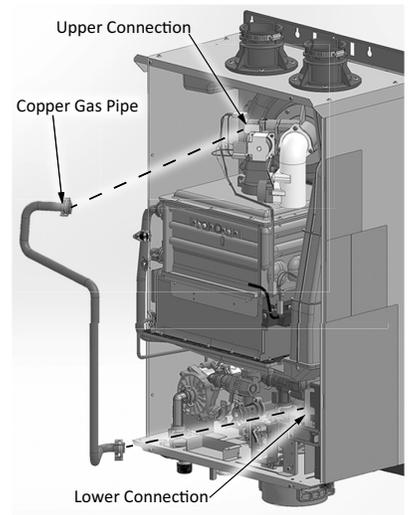

Figure 30: Copper gas pipe removal
- 6 Carefully remove the old copper gas pipe from the water heater. See Figure 30.